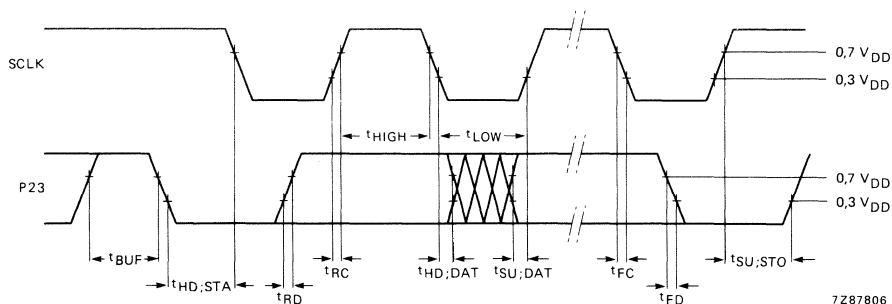

Fig. 30 PCD3343 timing requirements for the P23 and SCLK input signals.
**Table 9** Input timing shown in figure 30